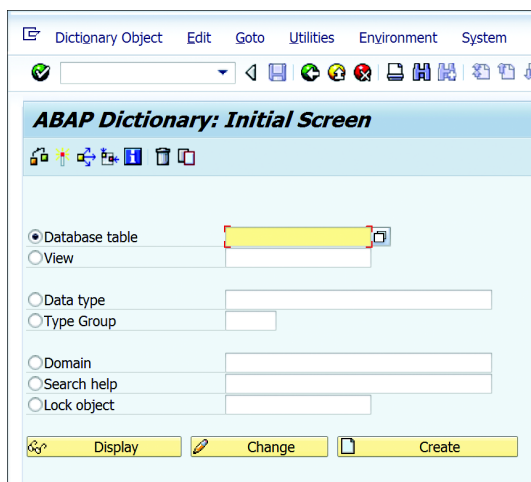

Figure 10.1 ABAP Data Dictionary: Initial Screen
Using ABAP Data Dictionary, we can maintain a variety of objects, such as tables, views, data types, domains, type groups, search helps, and lock objects. Figure 10.1 shows the initial ABAP Data Dictionary screen (Transaction SE11). Using ABAP Data Dictionary objects, we can add additional functionality to screen fields automatically, such as input help (**F1** help) and search help (**F4** help).
1. On the initial screen of the ABAP Data Dictionary (refer back to Figure 10.1), select the DATABASE TABLE radio button, enter the name of the database table you wish to create, and click the CREATE button. The name of the database table should be in the customer namespaces (starting with Y or Z).